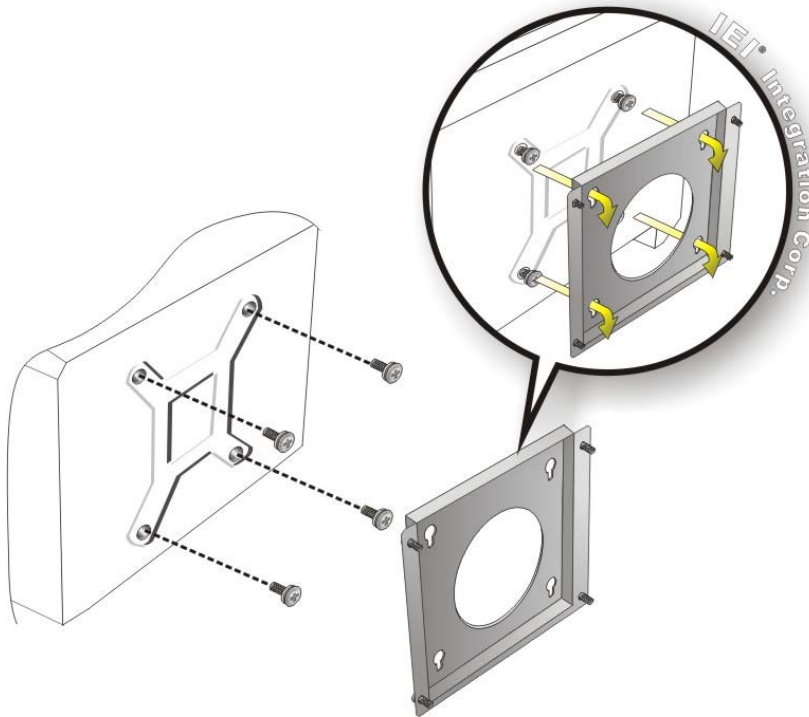

Figure 3-20: Mount the Chassis
- Step 6:** Insert the four monitor mounting screws provided in the wall mounting kit into the four screw holes on the rear panel of the monitor and tighten until the screw shank is secured against the rear panel (**Figure 3-20**).
- Step 8:** Carefully insert the screws through the holes and gently pull the monitor downwards until the monitor rests securely in the slotted holes (**Figure 3-20**). Ensure that all four of the mounting screws fit snugly into their respective slotted holes.